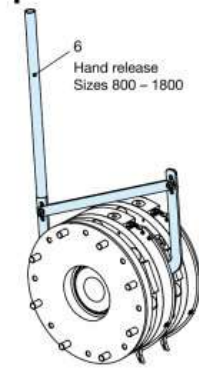

Fig. 4
A hand release (6) is installed manufacturer-side, dependent on Size and Type (see Type key pages 7 and 9 and Table 1). From Size 800, both circuits are released simultaneously with a lever (see Fig. 4).